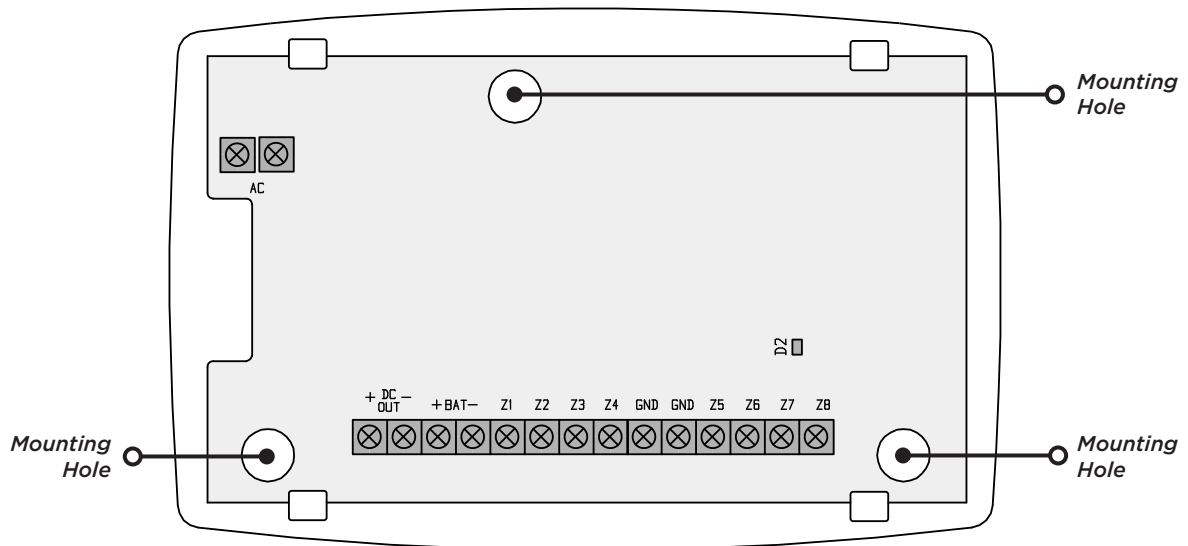

Figure 2: 1158 Mounting Hole Locations
With the housing cover removed, use the supplied screws to secure the 1158 to a wall or other flat surface. Use the built-in holes on the PCB to screw the housing base onto a surface without removing the PCB. See Figure 2.
2. Use the existing wire to connect a contact to a zone terminal and a ground (GND) terminal. See Figure 2.